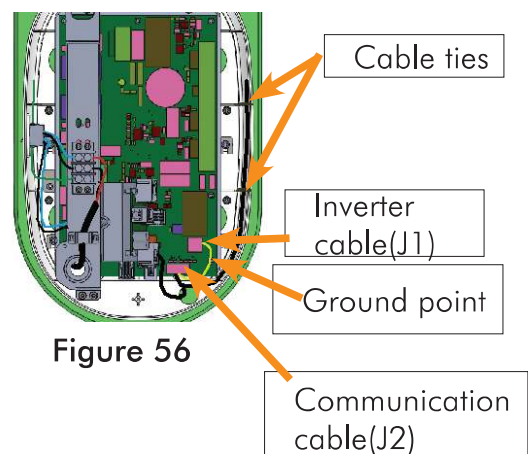

Figure 56
- Cut the 2 cable ties used to hold the cables on the right inner side of the Base Unit using cutter as shown in Figure 56 .
- Disconnect the communication cable connector (Pressing the lock) from J2 connector of the power board as shown in the Figure 56 .
- Disconnect the INV power cable (2 wires with pin terminals) from the J1 connector (holding the connector) of the power board using Jewel screw driver as shown in Figure 56 .
- Disconnect the GND ring terminals of both INV cable and communication cable by removing the M3X6 Hex. Socket head cap screw using 2.5 mm allen key from the power board at the location shown in the Figure 56 .